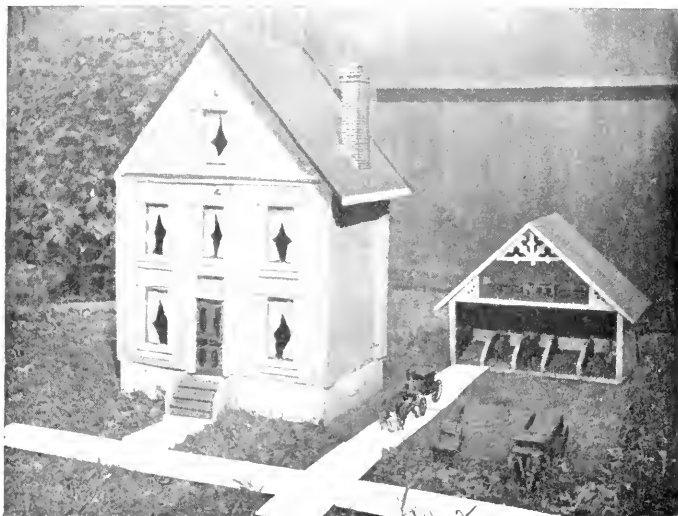
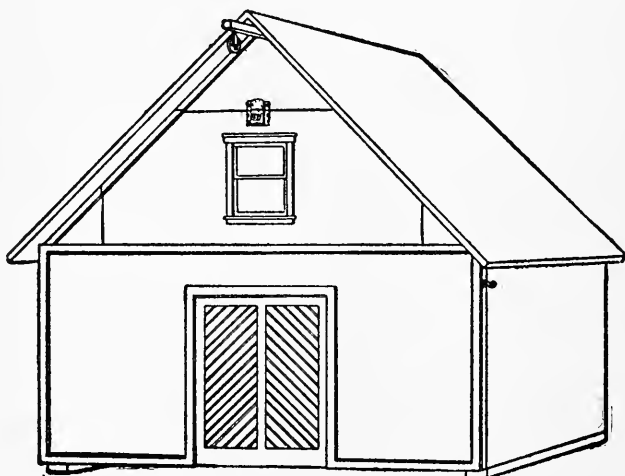

FIG. 96. ANOTHER STYLE OF DOLL-HOUSE.
FIG. 114.—Exterior of Stable.
PHOTOGRAPHS of another style of doll-house are shown in Figs. 96 and 97. This house was built by the author for a little relative some ten years ago, and is still in perfect condition, as the photographs show.
**The Front Wall** is made in two sections, each hinged to a strip of wood an inch and one-half wide nailed to the two edges of the house, as shown in Fig. 96.
The stable shown in Figs. 114 and 115, and in the background of Fig. 96, will go nicely with the house described in this or the preceding chapter. Its con-
**Feed-hoist** (see Fig. 114).
**A Drop-front**, as shown in Figs. 114 and 115. This is made from the box-cover. Fasten the boards together with battens placed upon the inside, and hinge it to the bottom of the stable. Nail two cleats to the under side of the floor (see Fig. 114) to lift it off the ground, just enough to allow the front to drop without springing its hinges.
**Represent a Stable Door** on the outside (see Fig. 114). This is done with paint and a fine brush. First paint a green panel in the centre of the front, and then mark off a couple of panels within this space with black paint, and stripe them diagonally to represent beaded-boards.